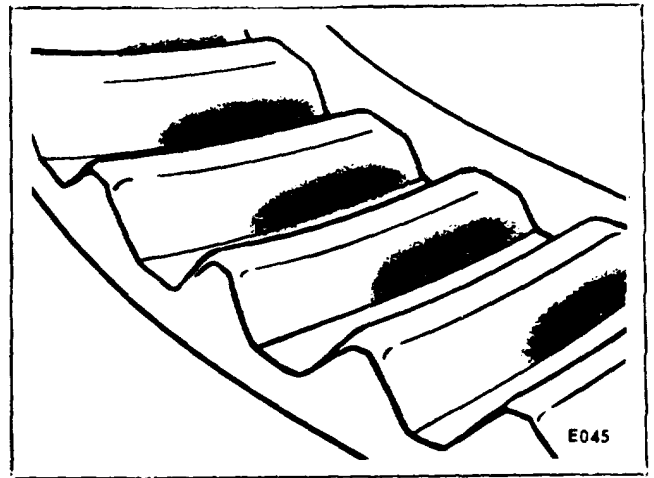

Figure 22.
5. Figure 22 shows heavy contact on flank or lower portion of tooth. To correct, move pinion away from gear until contact comes to full working depth of tooth without breaking contact at flank. Then move gear toward pinion to secure correct backlash.